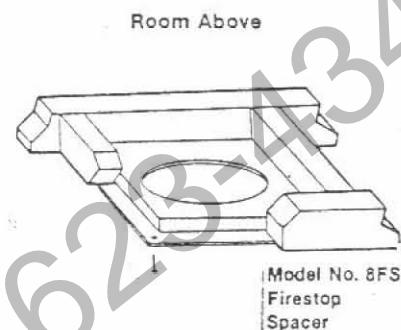

Figure 25
**Step 3 Conventional Housing:** Position Model 8FS or Model 8FS30 Firestop Spacer at ceiling and nail temporarily with two (2) 8d nails. Use flat Firestop Spacer, Model 8FS, if chimney penetrates ceiling vertically. If chimney penetrates ceiling at 30° angle (offset chimney), use 30° Firestop Spacer, Model 8FS30. Use one nail on opposite sides to hold Firestop Spacer in position. Nail permanently, using at least 2 more 8d nails, after chimney sections have been assembled through the Firestop Spacer and after any necessary adjustments have been made. Firestop Spacer must be secured by at least four (4) 8d nails when completely installed.
**Note:** If there is a room above ceiling level, Firestop Spacer must be installed on bottom side of ceiling. If attic is above ceiling level, Firestop Spacer must be installed on top side of ceiling. (Figures 25 and 26).